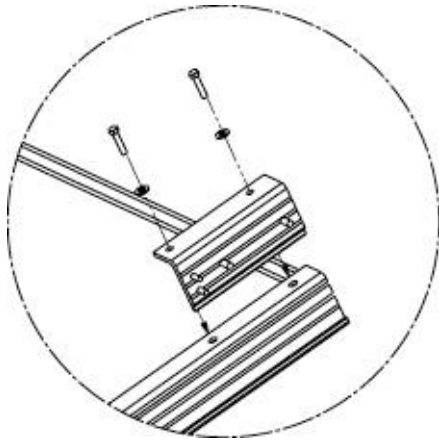
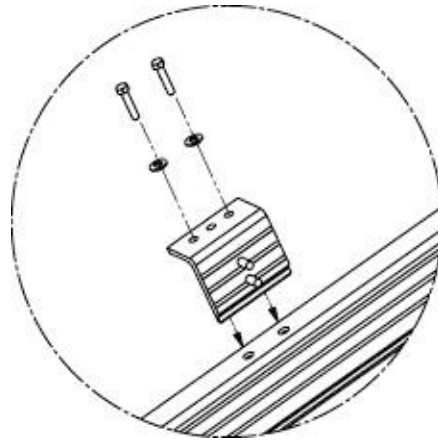
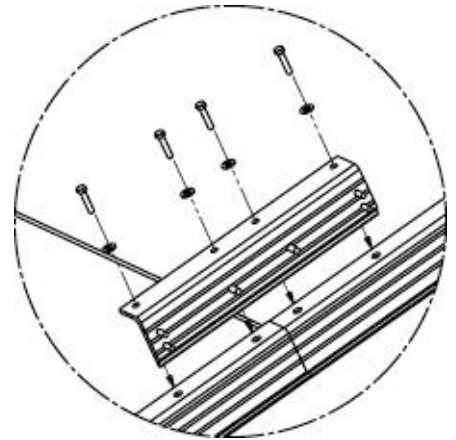

FIG. 16a
FIG. 16b
FIG. 16c
- 2.2 There are three different bracket types used to assemble ramp sections (see FIG. 16a, FIG. 16b and FIG. 16c). All three bracket types are fit into the side rail of the ramp section and are best installed with the ramp section placed upside down using the 5/16-18" x 1.5" hex bolts and washers. Make sure the narrow edge of the bracket engages the trough formed in the ramp section side rail and the holes in the bracket align with the threaded inserts preinstalled in the ramp section side rails. Use 1/2" wrench or socket to secure fasteners.
- 2.2.1 End support assembly bracket (FIG. 16a): These brackets come in a left and right pair and attach to the upper and lower end of a ramp run to support the ends of the ramp run when combined with support legs. These brackets also provide attachment points for the guardrails.
- 2.2.2 Guard brackets (FIG. 16b): This pair of brackets provides an attachment point for the guardrails at the mid-point of a ramp section.
- 2.2.3 Center support assembly bracket (FIG. 16c): This pair of brackets joins ramp sections together and is required where ramp sections meet in a ramp run. They support the ramp at this point when combined with support legs and provide attachment points for the guardrails.
- 2.3.2 Install end support assembly brackets (FIG. 16a) at both ends of the ramp section. This will require two pairs of end support brackets.
- 2.3.3 Install one pair of guard brackets (FIG. 16b) at mid-point of ramp section in similar manner.
- 2.4.2 Install one pair of center support brackets (FIG. 16c) at each junction of two ramp sections.
- 2.4.3 Install end support assembly brackets (FIG. 16a) at both ends of the ramp run (this will require two pairs of end support brackets).
- 2.4.4 Install one pair of guard brackets (FIG. 16b) at the mid-point of each ramp section making up the run.
- 2.8.2 Install (1) pair guard brackets (FIG 16b) at mid-point of ramp section and either an end support assembly, if the starter section is the only ramp in the run, or a center support assembly if connecting to another ramp section as described in previous steps.